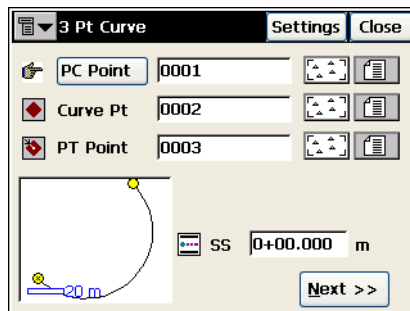

Figure 7-22. Three Point Curve
2. In the **3 Pt Curve** screen (Figure 7-22), enter or select from the list or map the following sets of three known points to create a curve and tap **Next**: